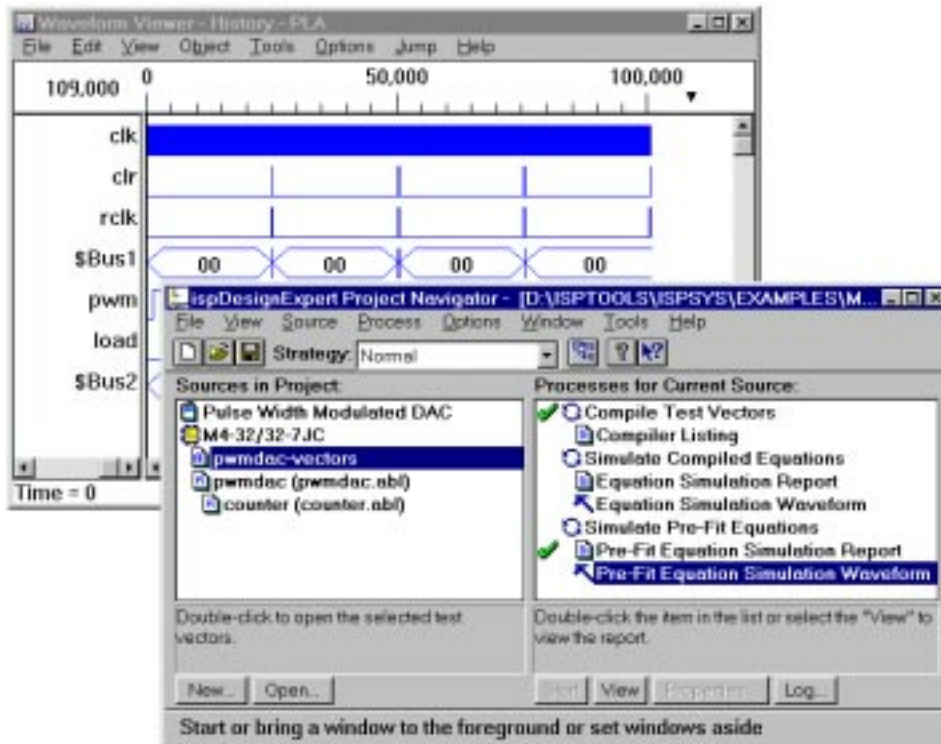

Figure 5-10. Opening the Waveform Viewer
2. In the Processes window, double click the last process to run the simulation. After the simulation runs, the Waveform Viewer opens (Figure 5-10) displaying the simulation waveforms.